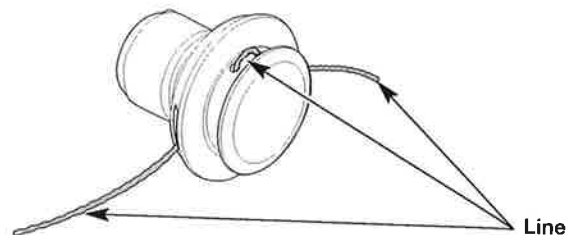

Fig. 19
4. Pull the ends of the line until the line is tight against the cutting head. Make sure the ends of the line are of equal length (Fig. 19).